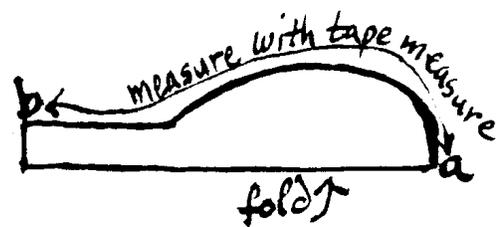

Figure 2
4. Cut this pattern out, fold in half and make sure halves match exactly. *Figure 2.*
5. Measure with flexible tape measure the outside distance from *a* to *b* in *Figure 2.*